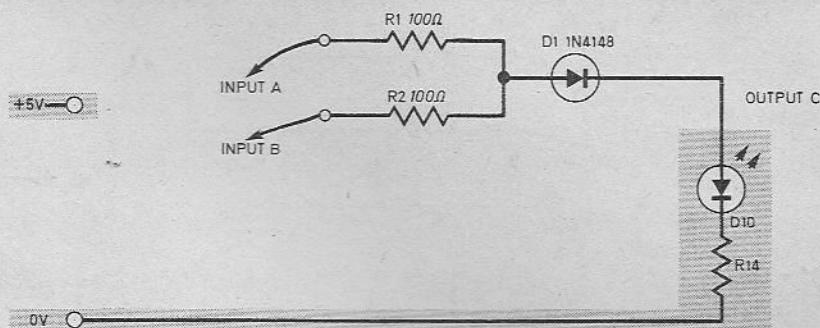
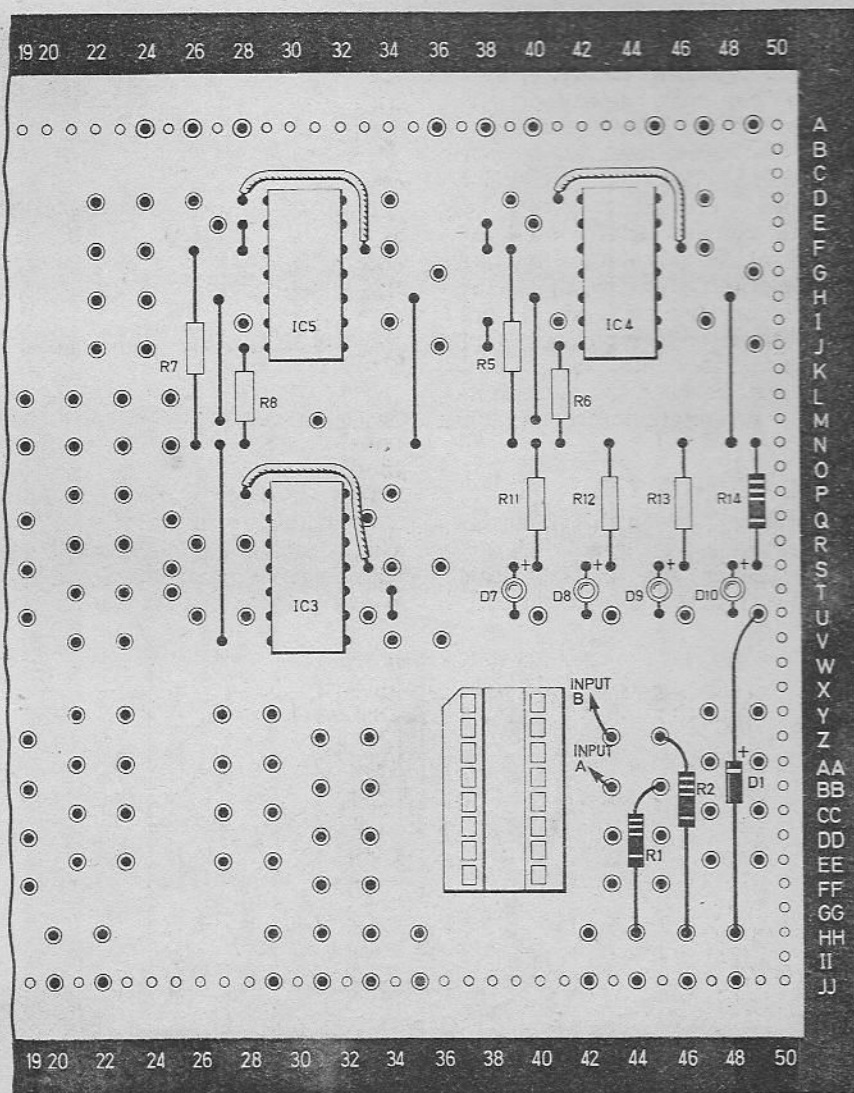

Fig. 1.1. The circuit diagram of a simple two-input AND gate constructed using a single diode
Fig. 1.2. The circuit of Fig. 1.1 wired up on the Test-Bed. The gate inputs are made via flying leads to either the +5V or 0V rails.
A simple type of AND gate is shown in Fig. 1.1. Truth is indicated by a "high" voltage (5 volt in this circuit). Falseness is indicated by a "low" voltage (0V). Inputs A and B can be made high or low according to whether statements A and B are true or false. The output of the gate tells you whether C is true or false. If C is true, output voltage is high and the l.e.d. lights. If C is false, output voltage is low and the l.e.d. is dark (off). Connect up the components on the Test-Bed to make this gate as shown in Fig. 1.2 and try various combinations of inputs; record the output (C) in a table by completing the following table.